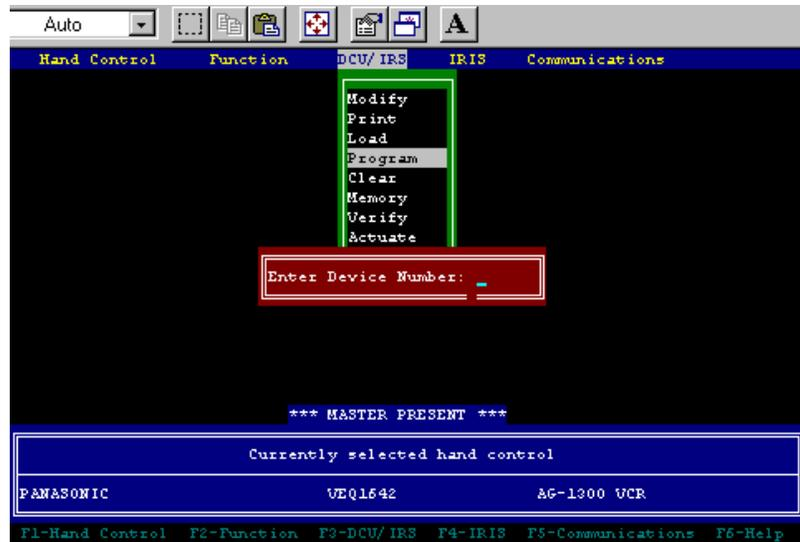

Figure 10. “Enter Device Number” Dialog Box
- You will now be prompted to enter a device number, as shown in Figure 10. The number you enter here should correspond to the physical slot number where the RANIR card is positioned or the RANCL101CP, RANCL201CP or RANCLASS1 address. In addition to “MC1” and “CS,” there are sixteen possible slot locations in each RANCC16. The card cage has numbers in front of each card's location. Find the card that you are programming. Type in this number and press *Enter*. If the device is an RANCL101CP, RANCL201CP or RANCLASS1 type in its address and press *Enter*. If the program reports “Error in Clearing,” you may have chosen the wrong card or classroom address, or your control system may not be configured correctly. See “IRLIB does not Respond with Master Present” earlier in this section for more information.